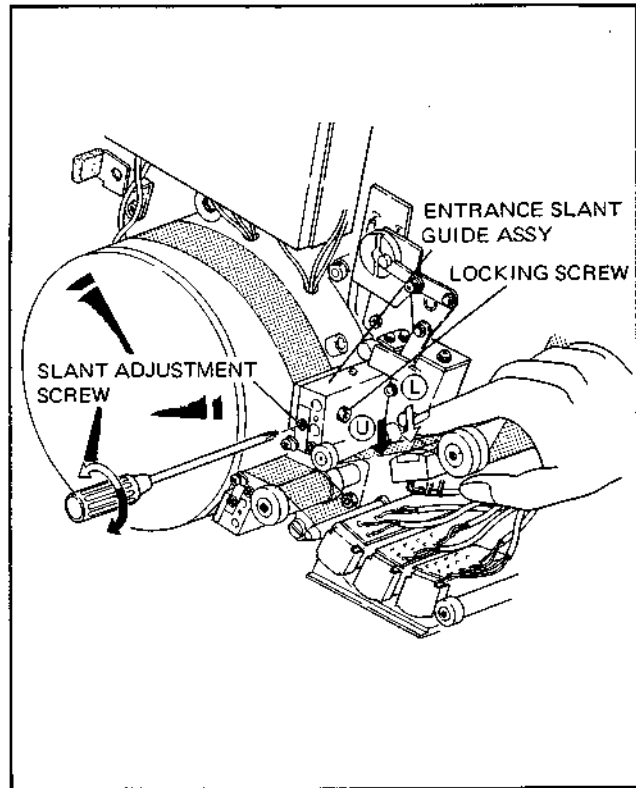

Fig. 3-73-2. Slant Adjustment of Entrance Slant Guide
- a By pushing U or L point of the running tape as shown in Fig. 3-73-2, find out the side whose RF waveform is similar to (a) of Fig. 3-73-1.
12. Lightly push **U** or **L** side of the tape shown in Fig. 3-73-2 and find out the side whose RF waveform on the tape entrance side becomes flat.